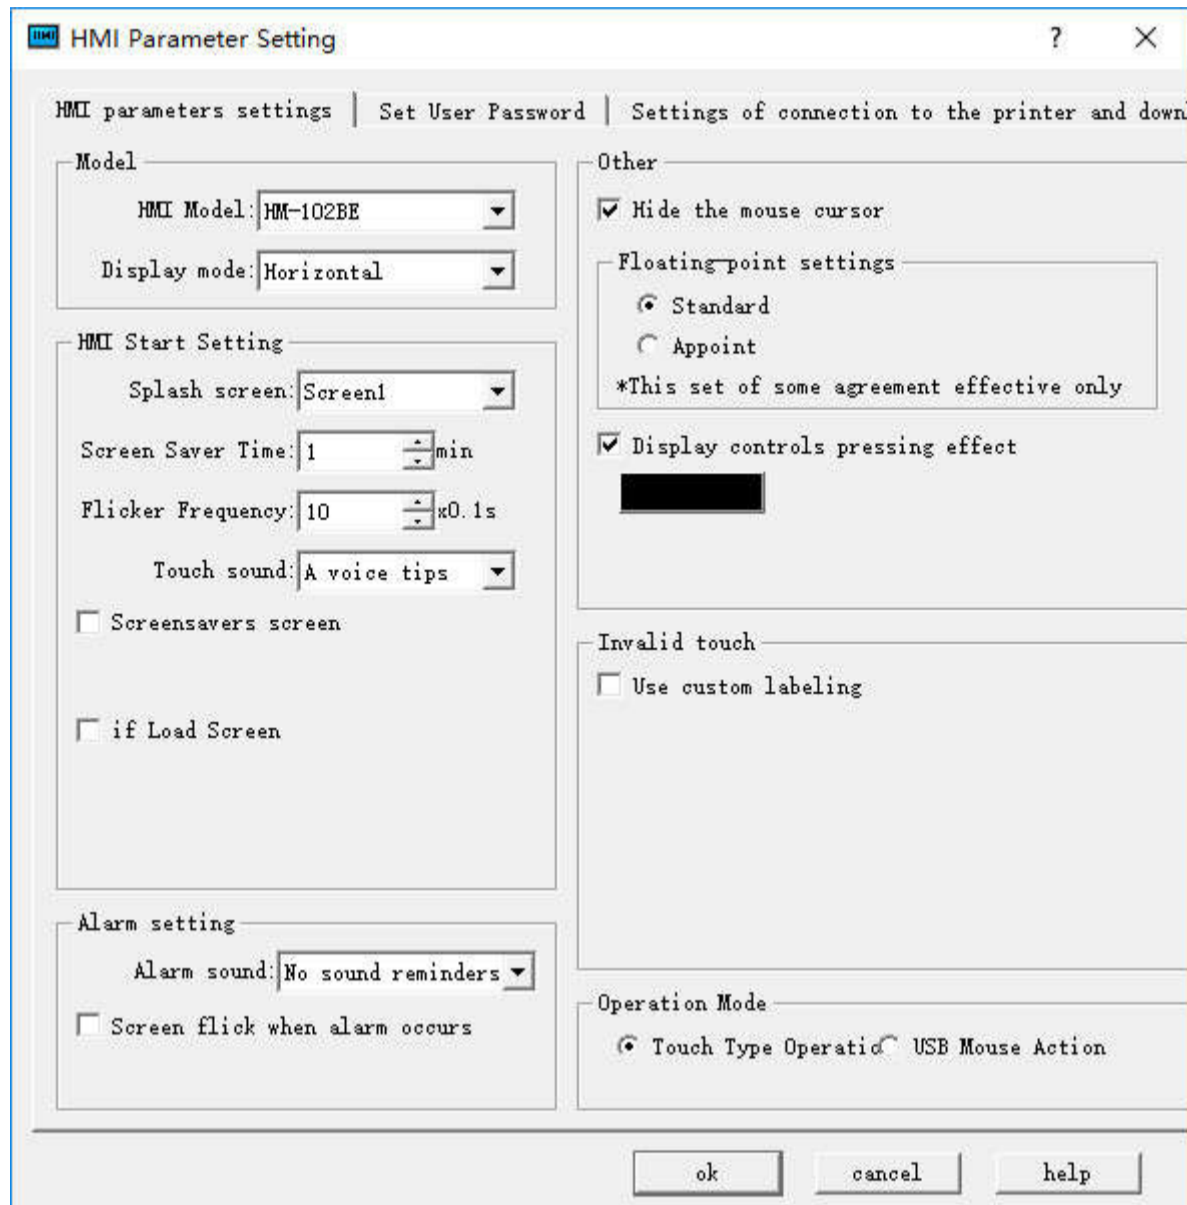

Figure7-3 HMI Parameter Setting dialog box
HMI model can be assigned when create a project or be modified during the configuration through HMI parameter settings in the Project Manager. Double click "HMI Parameter Setting" in the Project Manager, then a dialog box pops up, as shown in Figure 7-3:
1. You can modify the parameter settings through Preference Setting in the drop-down menu Settings, or double-click the HMI Parameter Settings in Setting, Project Manager. Then a pop-up dialog box is shown as Figure 7-3 below: